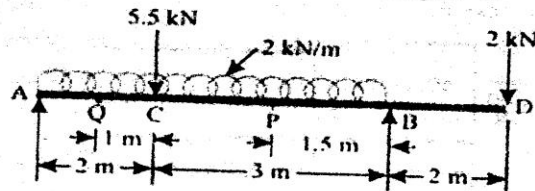

Figure-6
6. Draw the SFD and BMD for the loaded beam shown in figure -6. (15)